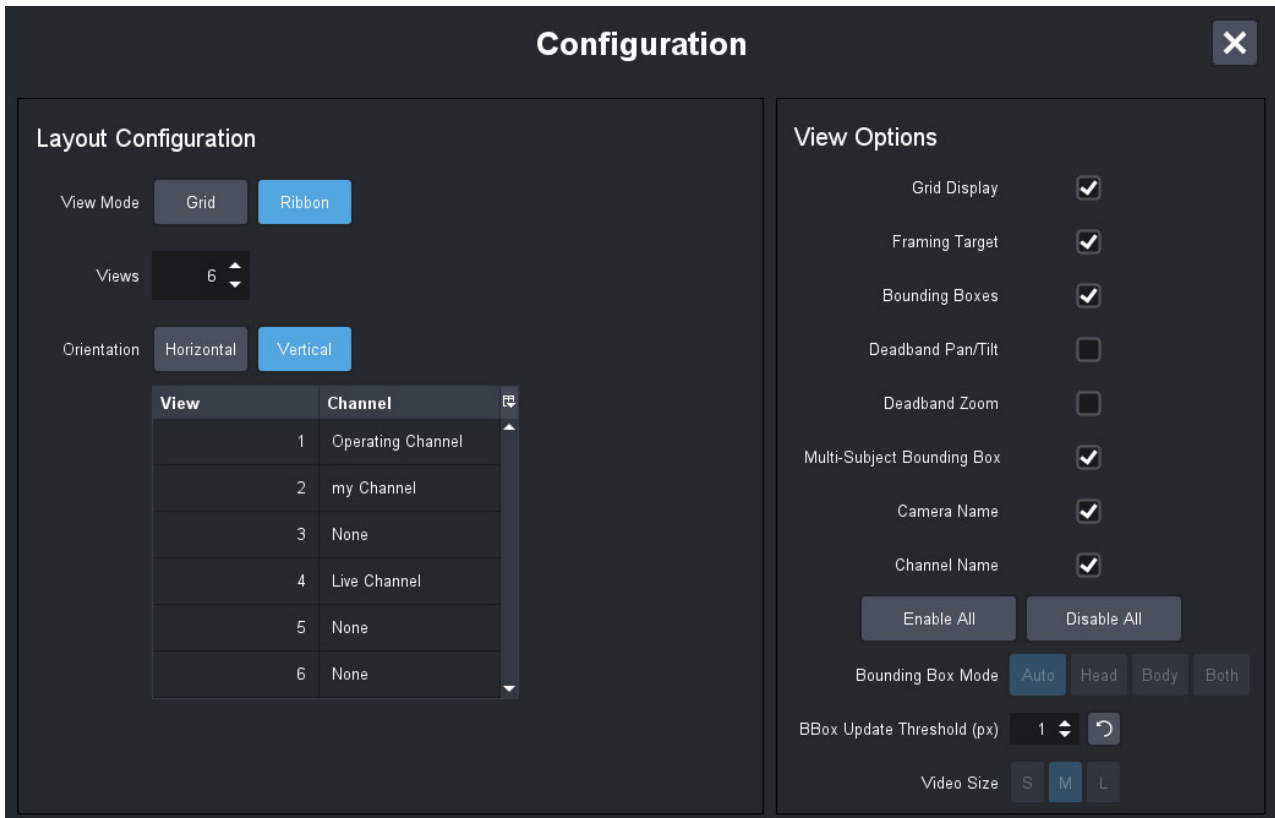

Figure 40 - MultiChannel Configuration Page, showing Settings for Ribbon View Mode
- a. In the **Views** list, specify how many channel views you want to show (Figure 40).